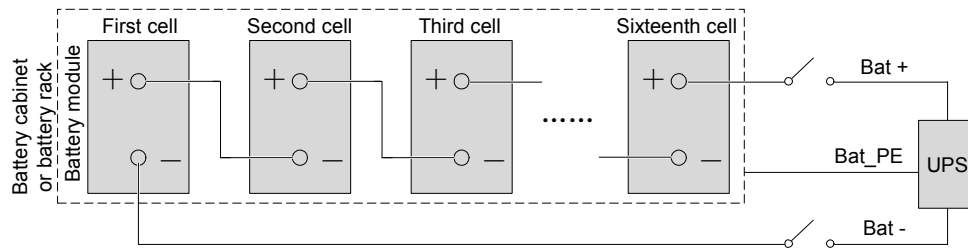

Figure 2-26 Battery module connection principle diagram
3. Connect the red, black and yellow terminal of one end of the battery cable A to the corresponding terminal of the battery port on the rear panel of the UPS, and connect the other end of the battery cable A to one of the battery ports of the battery module 1, as shown in Figure 2-26.